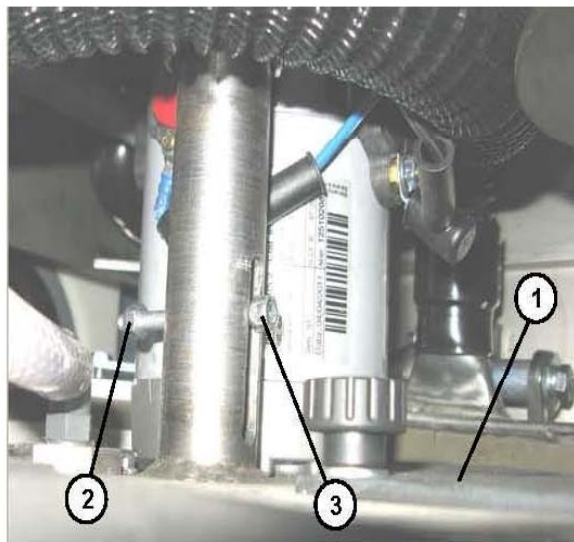

Figure 7-11
5. Operating above the brush head (1, **Figure 7-11**) unscrew the nut (2)
6. and remove the lower retaining screw (3) of the actuator to the brush head.